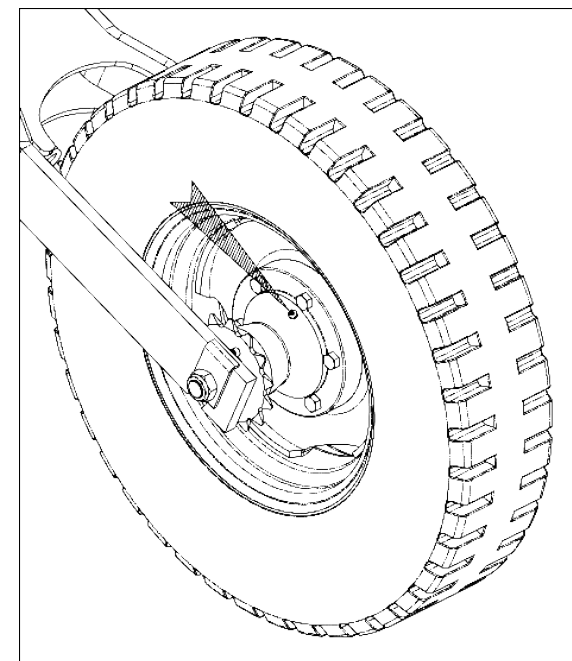

Figure 61
LUBRICATE AFTER EVERY 60 HOURS OF OPERATION (FIGURE 61)
Loosen the nut (1), slide the stretcher (2) adjust the chain tightness (3). Then retighten the nut (1), as shown in figure 61.